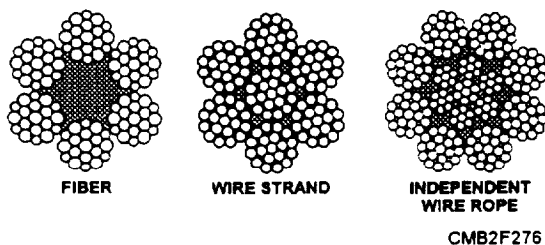

Figure 6-35.—Core construction.
**CORE.**—The wire rope core supports the strands laid around it. The three types of wire rope cores are fiber, wire strand, and independent wire rope (fig. 6-35).